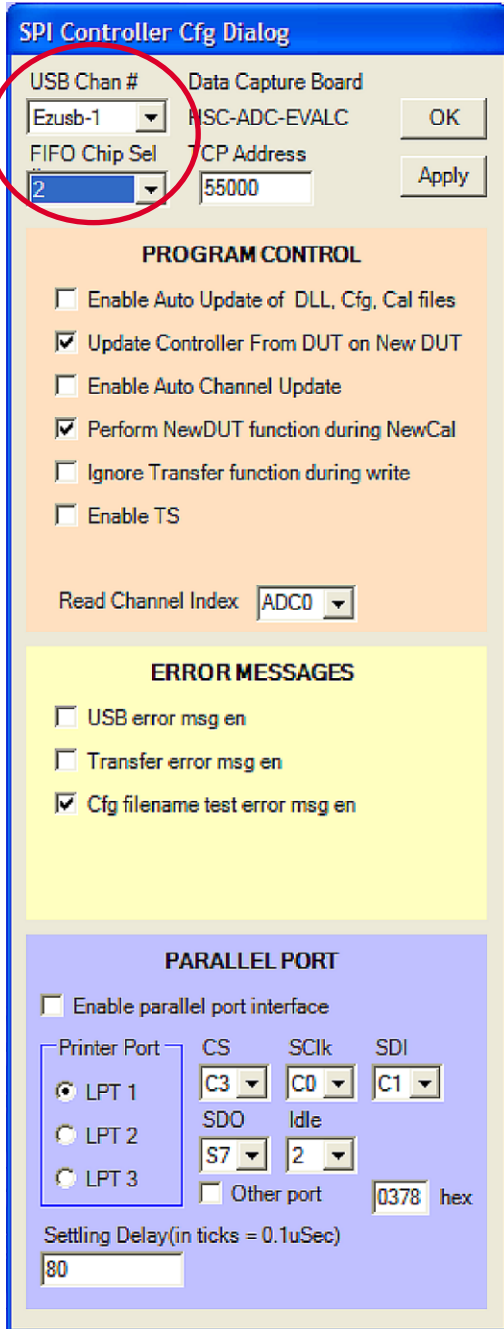

Figure 10. AD9516 SPIController
3. Select **Config** and then **Controller Dialog**. In the **AD9516 SPI Controller Cfg Dialog** window, make sure that **FIFO Chip Sel** is set to **2** and that **USB Chan #** is set to the same value as in the AD9267 SPIController (see Figure 10).